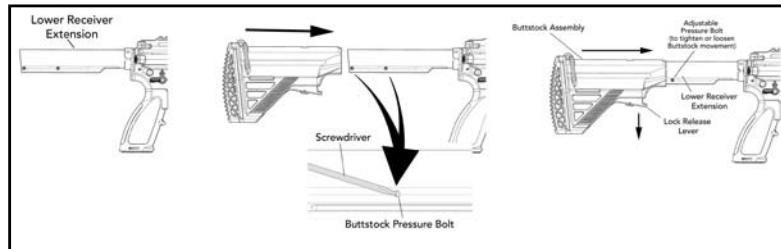

Fig. 37 – Buttstock reassembly
- Two small set screws are located on the bottom of the receiver extension (buffer tube). These set screws are provided to eliminate any play that may develop between the buttstock and the extension. The left hand side of the set screw features a detent surface that engages the buttstock. The right hand surface features a cut to accommodate a small straight slot screwdriver. Rotating the set screws clockwise will tighten the detents to the buttstock; rotating the setscrew counter clockwise will loosen the buttstock. Using a straight slot screwdriver, rotate the set screws clockwise using quarter turns and adjust until the detents engage the buttstock but do not hinder removal or installation (Fig. 37)